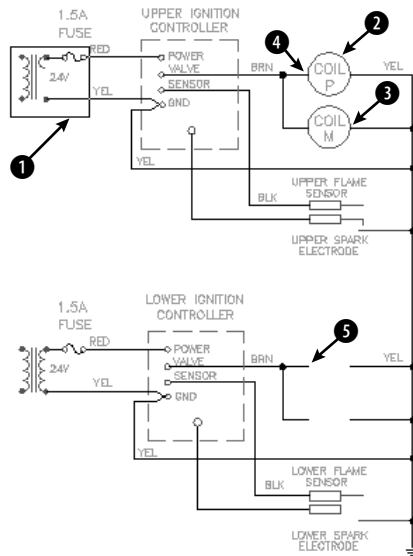

Figure 9-5: The electrical schematic.
3. Use ZOOM Window to zoom into the area of the drawing marked 1 in Figure 9-5. This shows a 24-volt transformer.
6. Pick the circle at ② in Figure 9-5 (which shows the entire schematic section). Note the grips. You also want to select the text inside the circles, but it's hard to see because of the grips. Press Esc to remove the grips.
7. Choose Copy from the Modify toolbar. Now select the circle at ② in Figure 9-5 again. This time no grips obscure the text. Separately pick both lines of text inside the circle.
8. Continuing to select objects to copy, select the circle at ③ in Figure 9-5. Also select the two lines of text inside the circle. Right-click to end the Select objects: prompt.
9. At the Specify base point or [Displacement] <Displacement>: prompt, pick the endpoint at ④ in Figure 9-5. At the Specify second point of displacement or <use first point as displacement>: prompt, pick the endpoint at ⑤ in Figure 9-5. Press Enter to end the COPY command. This action copies the two circles with the text.